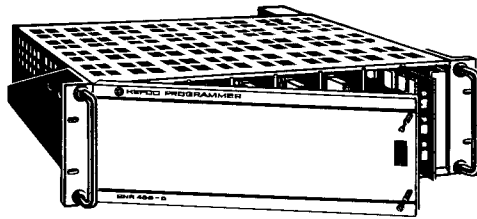

FIG. 1-3 KEPKO MODEL SNR 488-8 RACK HOUSING.
- 1-10 **Kepco Model SNR 488-8** with built-in interface card, is a 19" rack housing slots for eight (8) programming cards (see FIG. 1-3).